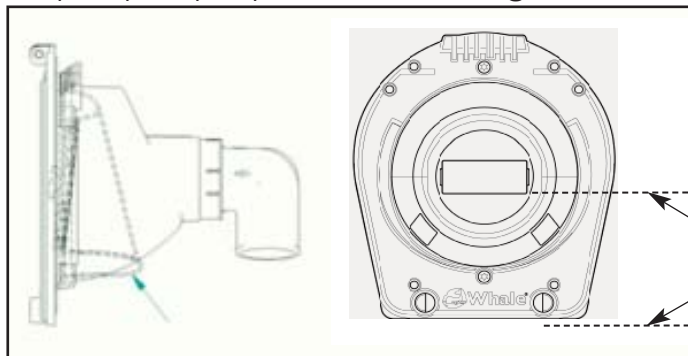

Fig.11
6. To install the new diaphragm ensure it is placed in the correct location (See fig.11). A small amount of lubricant e.g. vegetable oil applied to the edge of the diaphragm may ease installation.